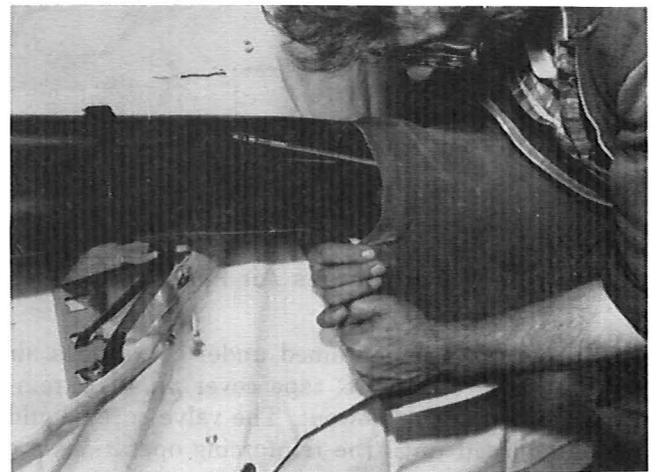

Fig. 9
5. Pinch the CR tape tightly together on the bottom of the collar to form a tight seal around the collar. (See Fig. 9.) Follow these procedures for the other end of the CR tape.